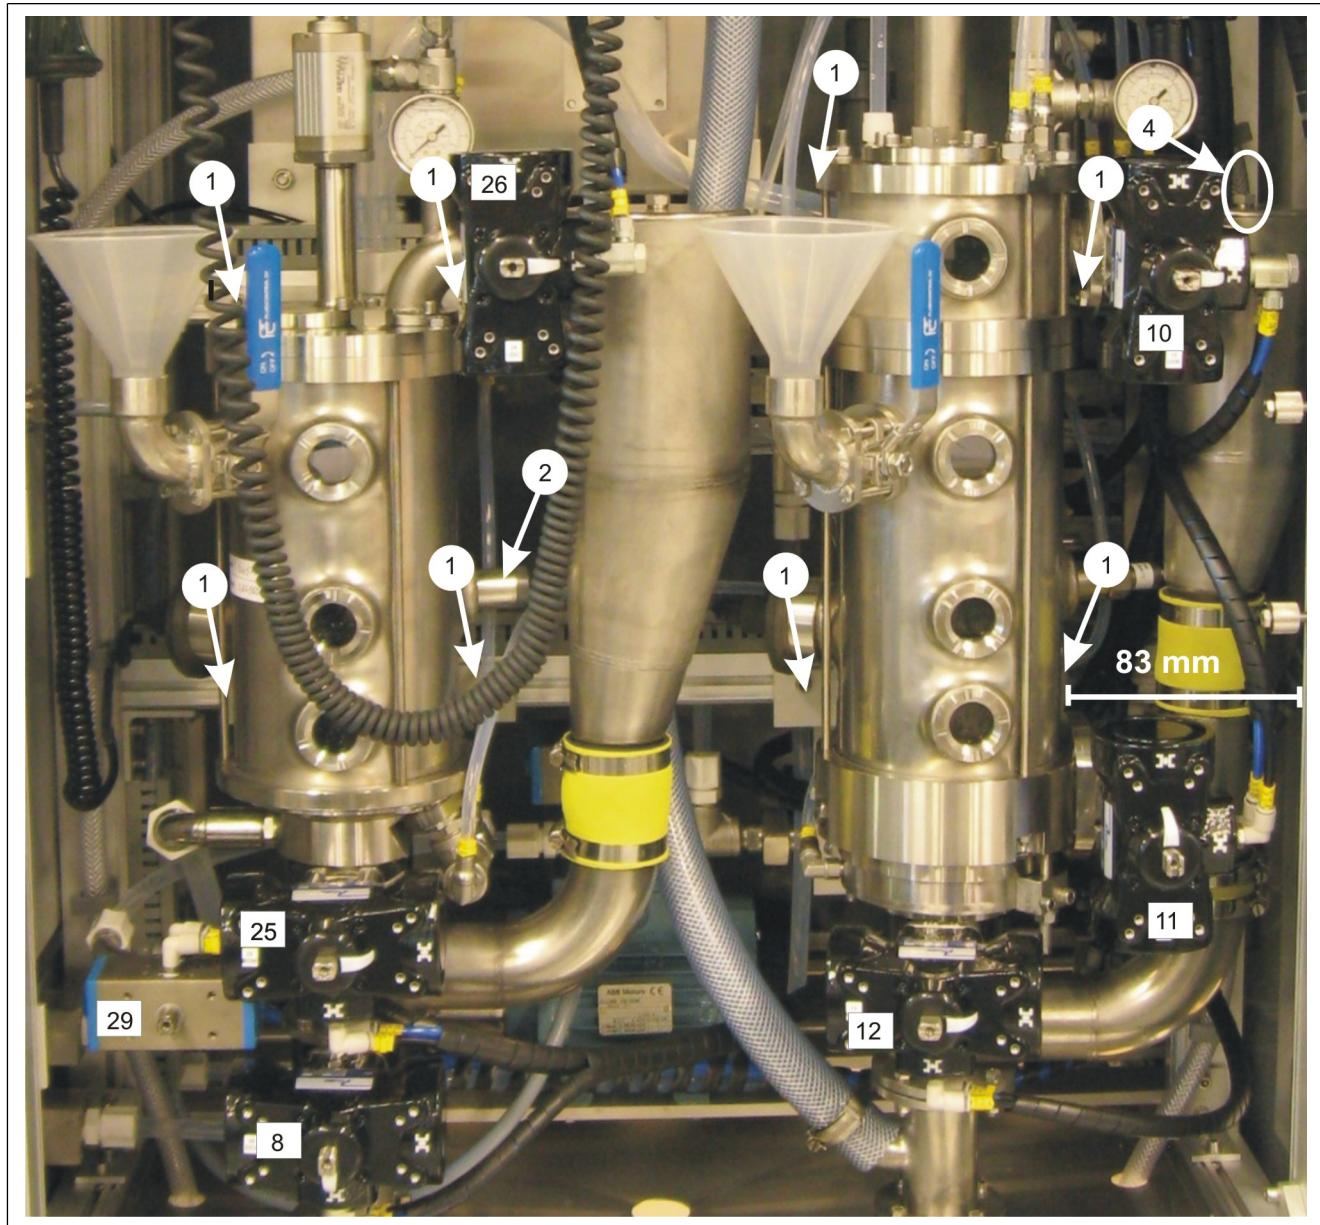

Fig. 12. Washing chamber and Sweep module installed to analyzer.
3. Make sure that the chamber is exactly upright, not tilted in any way, and tighten the screws (Fig. 12, part 1) with an Allen key.
1. Attach the level transmitter bushing (removed earlier from washing chamber) to the Sweep module (Fig. 12, part 2).